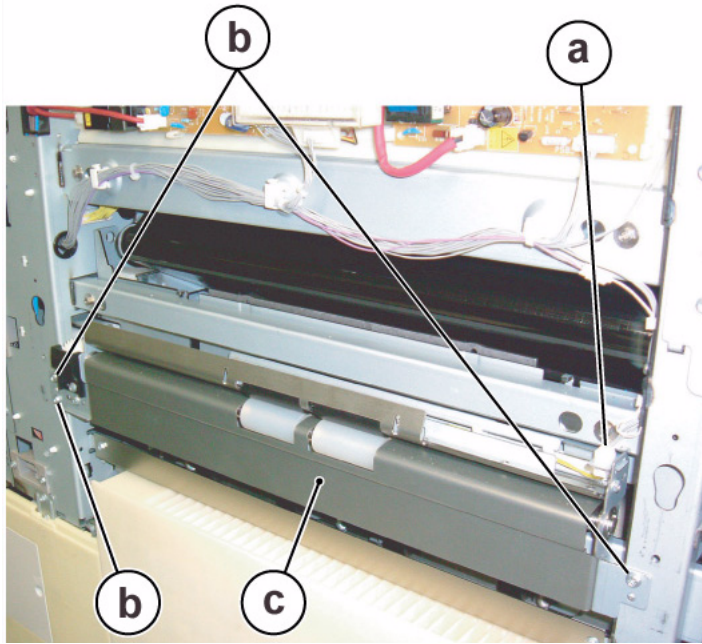

Figure 2 Removing the Tray 5 / Bypass Chute Assembly
- a. Remove (2) screws.
3. Remove the Tray 5 / Bypass Chute Assembly. Figure 2
- b. Remove the screws (2).